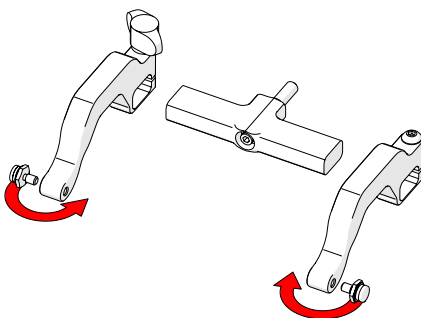

Fig. 84 - Position pivot buttons
5. Position the pivot buttons to the inside of the probe holder arms (Fig. 84).